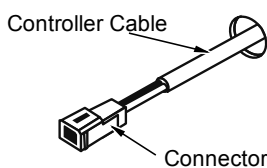

Fig. 2
3. When running cable through the access hole ensure the connector end of the cable is located nearest to the controller (Fig. 2).